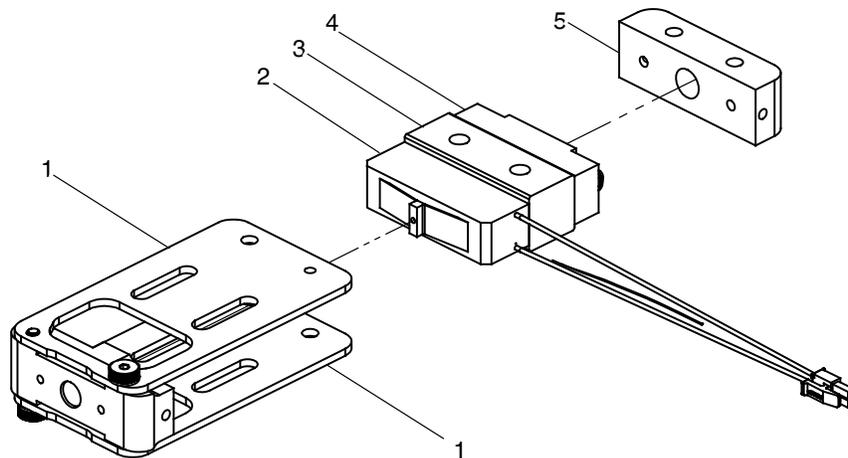

Figure 7-14 Piezo Actuator Disassembly
6. Use a 2.5 mm hex driver to remove the top shoulder screw (2) from the frame plate (3).
7. Use your fingers and a flat-blade screwdriver to remove the two clamp nuts (1) from the frame plate.
8. See Figure 7-14. Slide the the aluminum block (5) away from the air flush heat exchanger and put it aside.
9. Slide the the piezo actuator (2), along with the slide block (3), and the air flush heat exchanger (4) up and out of the frame plates (1).